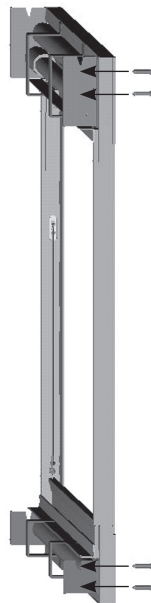

Figure 2
3. Mark the position of the bracket holes on the wall. See Figure 2.